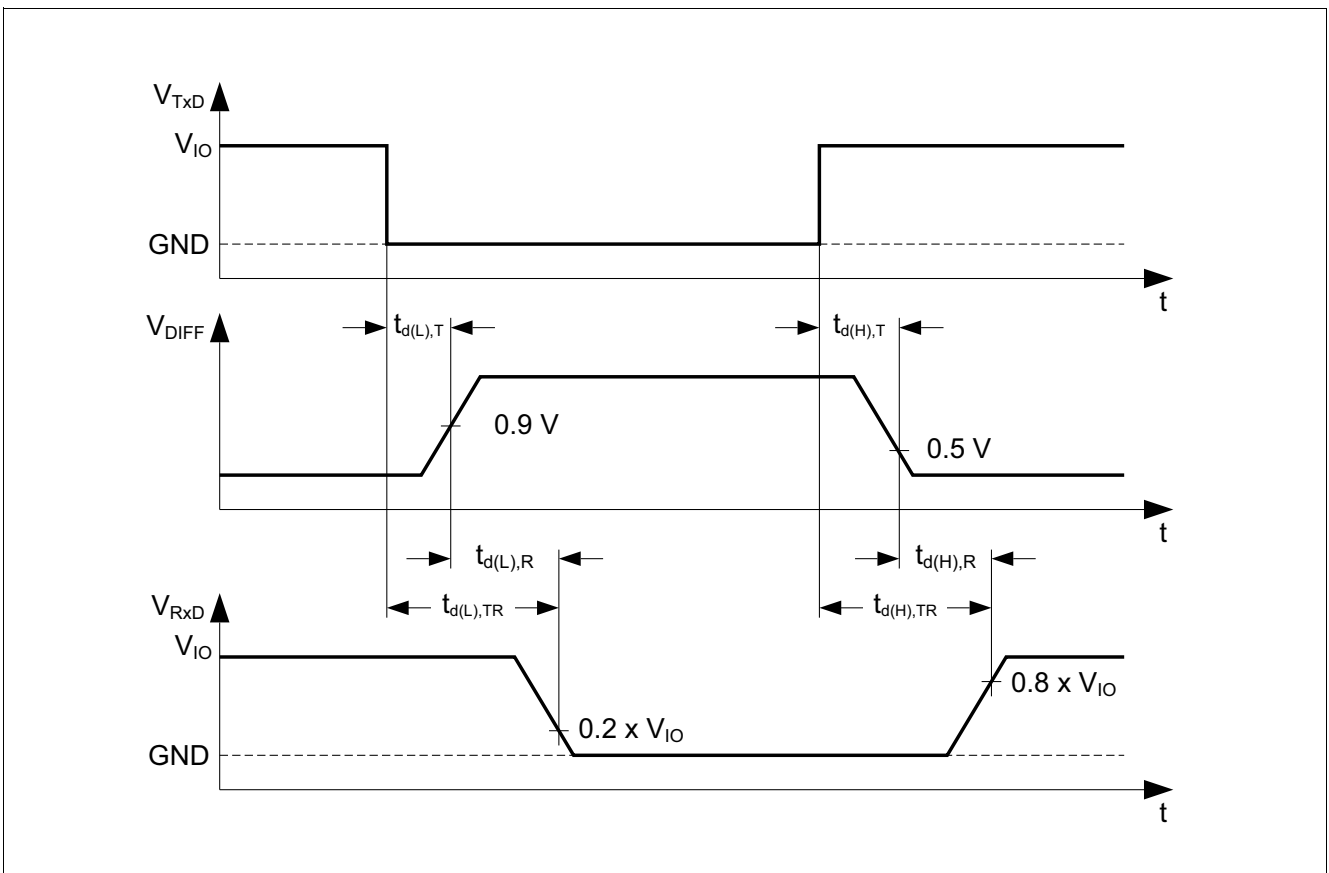

Figure 15 Timing Diagrams for Dynamic Characteristics
| 1.1 | 2011-05-23 | Update Data Sheet Rev.1.1 based on Data Sheet Rev. 1.0: <ul style="list-style-type: none"> • All Pages: correct spelling and grammar. • Update cover page, with new Infineon logo. • Page 7, Figure 3: updated. • Page 9, Figure 4: updated. • Page 18, Figure 10: updated. • Page 20, Figure 11, updated. • Page 22, Figure 13, updated. • Page 25, table 5, pos. 9.2.1: New supply voltage range $V_{S(Nom)}$ from 5.5 V to 18 V. • Page 25, table 5, pos. 9.2.2: New extended supply voltage range $V_{S(Nom)}$ from 5.0 V to 40 V. • Page 26ff, table 7, update table title: New supply range $5.5\text{ V} < V_S < 18\text{ V}$. • Page 29, table 7, pos. 10.1.58: Changed to typical value. • Page 30, Figure 15: updated. • Page 33, table 8: Change algebraic sign of the negative pulse • Page 33: Add new chapter 11.4 |